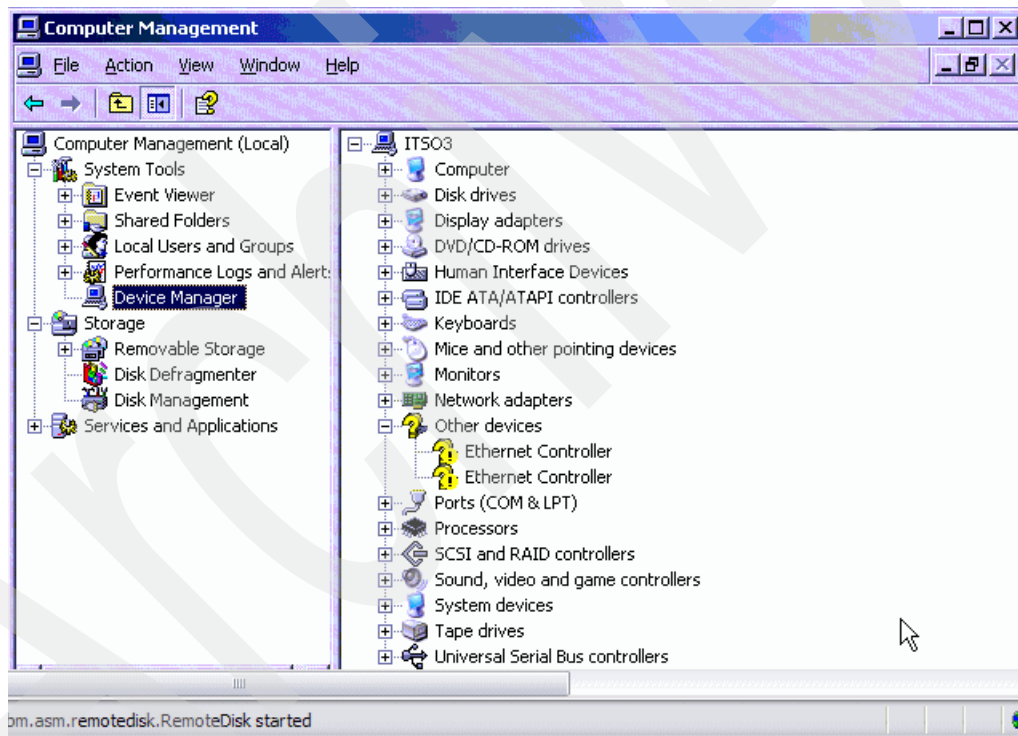

Figure 4-63 Ethernet hardware is seen but it has a problem
- iv. Double-click **Computer Management** and click **Device manager** (Figure 4-63).